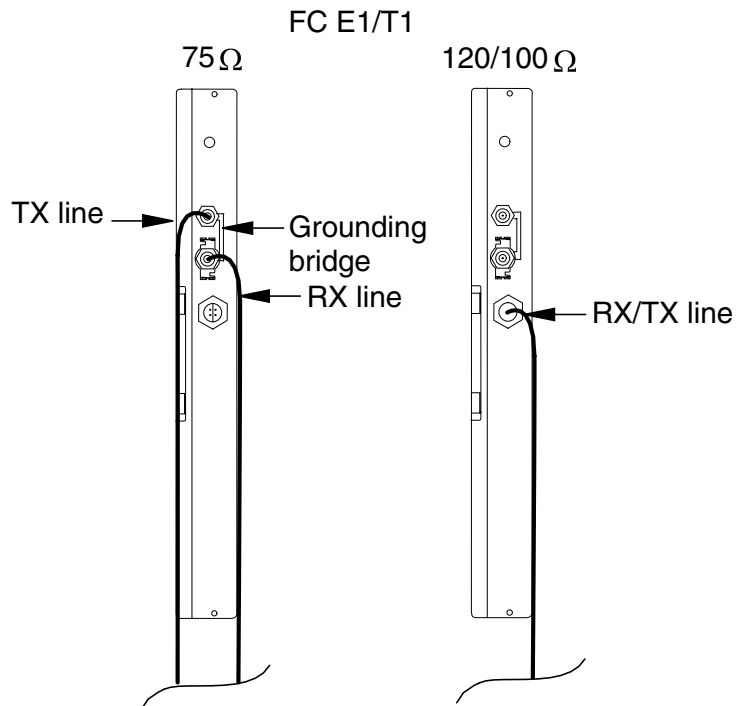

Figure 20. Cabling alternatives for the FC E1/T1 transmission unit
The 75  $\Omega$  TX and RX connectors are connected to each other with a grounding bridge (see Figure 20). If the grounding bridge is removed, the grounding of the RX connector's outer conduct changes from direct grounding to capacitive grounding.
1. If you want to remove the grounding bridge (see Figure 20), use a 10 mm hexagon socket to loosen both connectors and pull out the bridge. Re-tighten the connectors.
2. Connect the connector of the received (RX) signal line to the 75 Ω RX connector on the FC E1/T1 front panel.
3. Connect the connector of the transmitted (TX) signal line to the 75 Ω TX connector on the FC E1/T1 front panel.
- Connect the connector of TX/RX signal line to the 100/120 Ω TX/RX connector on the FC E1/T1 front panel (see Figure 20). Tighten the connector nut properly.